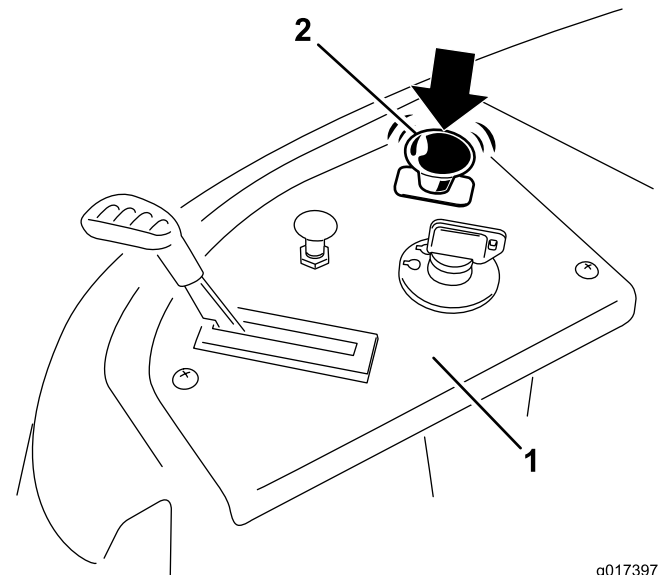

Figure 18
Push down on the blade control switch to move it to the Off position and disengage the blades (Figure 18).
1. Disengage the blades by moving the blade control switch to Off (Figure 18).